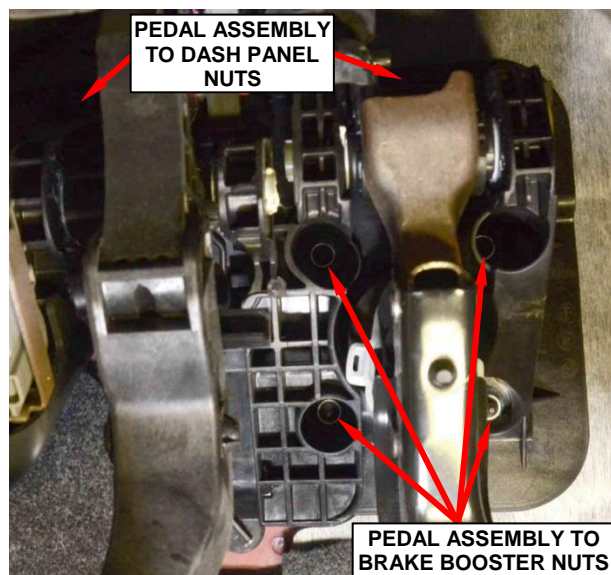

Figure 18 – Pedal Assembly Fasteners
- Install four NEW nuts attaching the pedal assembly to the power brake booster. Do not tighten these nuts at this time (Figure 18).
- Install two NEW nuts attaching the pedal assembly to the dash panel. Tighten these two nuts to 12 ft. lbs. (16 N·m) (Figure 18).